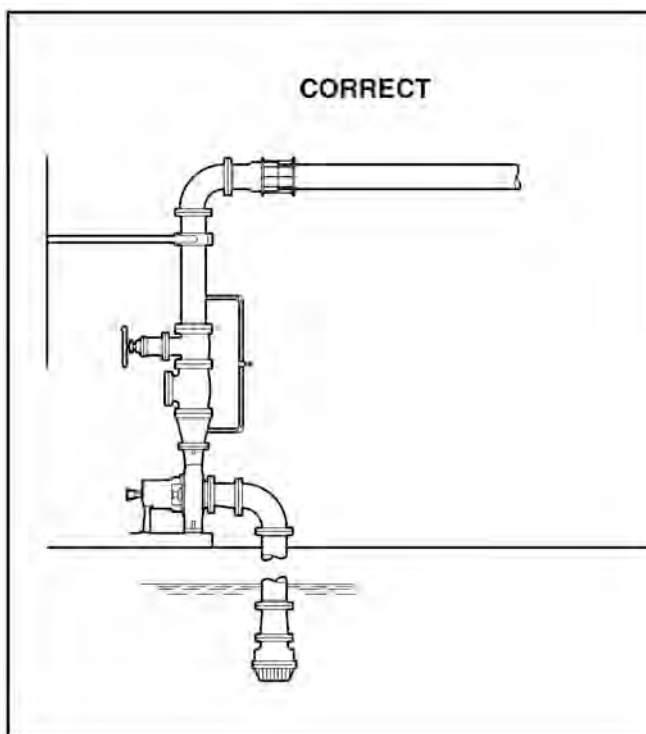

Figure 12: Correct
4. It is suggested that expansion loops or joints, if used, be properly installed in suction and/or discharge lines when handling liquids at elevated temperatures, so linear expansion of piping will not draw pump out of alignment (Fig. 12 & 13).